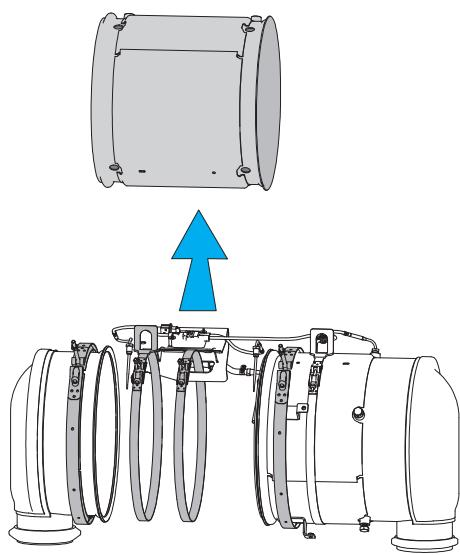

Figure 5-5-16 Detaching Diesel Particulate Filter
3. Disconnect the straps securing the DPF. See Figure 5-5-16.